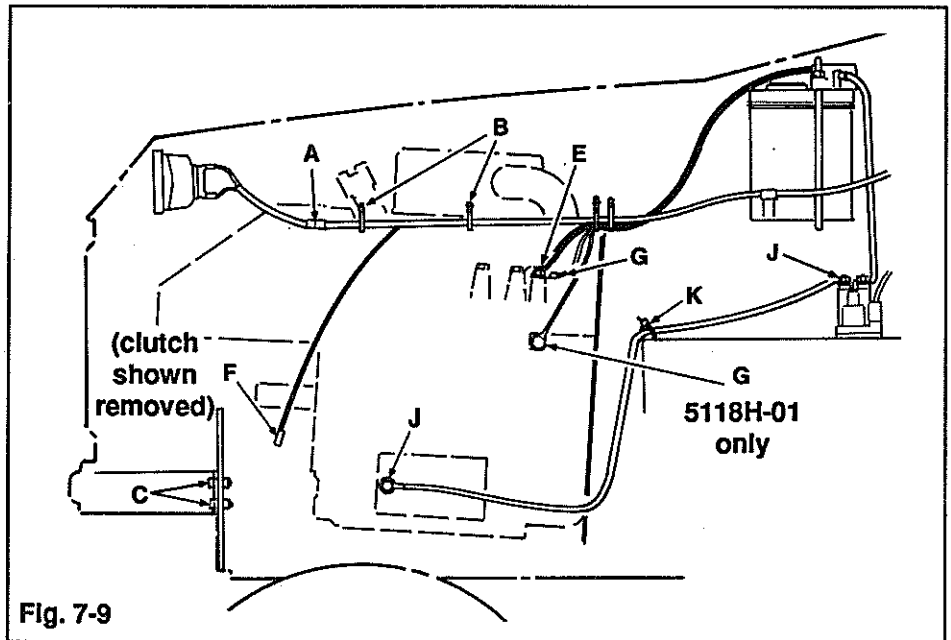

Fig. 7-9
2. Disconnect main wiring harness from the headlight harness (A, Fig. 7-9) and cut cable ties (B) where attached to grille support.